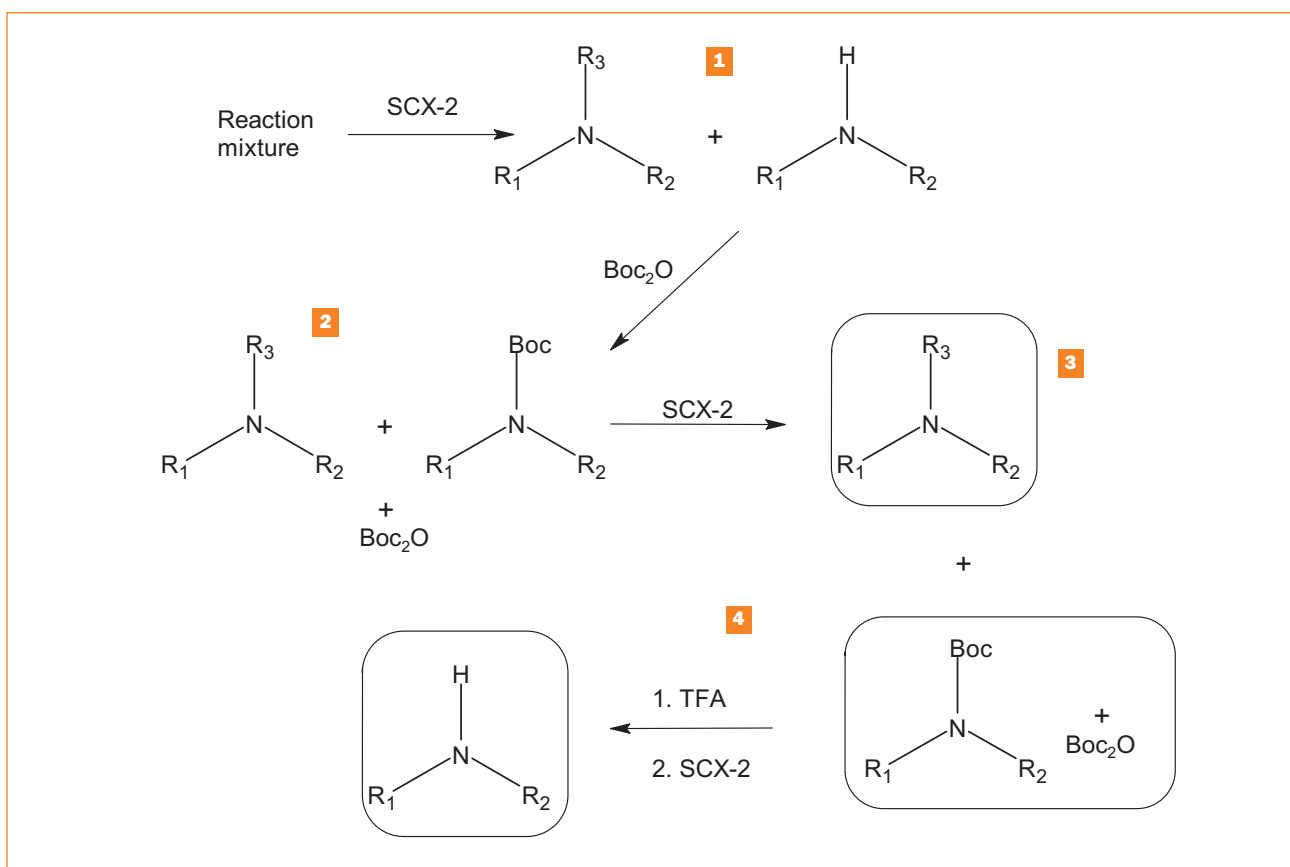

Figure 3. Treatment with Boc_2O in DCM, to form a carbamate with the secondary amine
2. Treatment of the reaction mixture with excess Boc_2O in DCM, forming a carbamate with the secondary amine only. In this case, the secondary amine can also be subsequently recovered following the catch & release by simple removal of the Boc group using TFA (**Figure 3**).